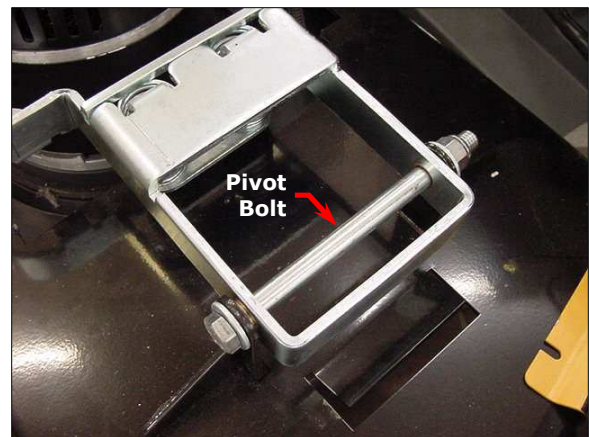

Figure 17 – Pivot Bolt
- 12.** See Figure 17. Remove the pivot bolt to allow you to remove the compression springs.